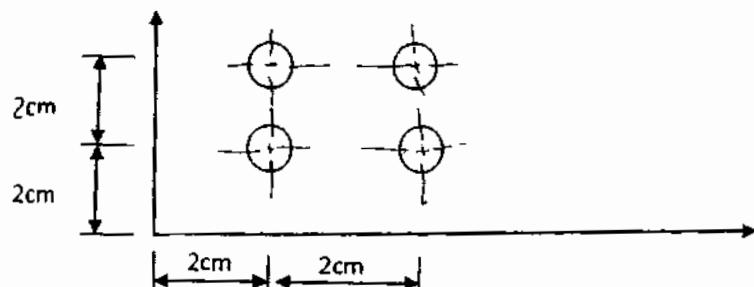

Fig. 1
b) Fig. 1 shows a matrix of holes to be drilled in a job. The number of holes in the x-direction is 5 and number of holes in the y-direction is 7. Write an APT program using MACRO feature to establish the hole coordinates. 10